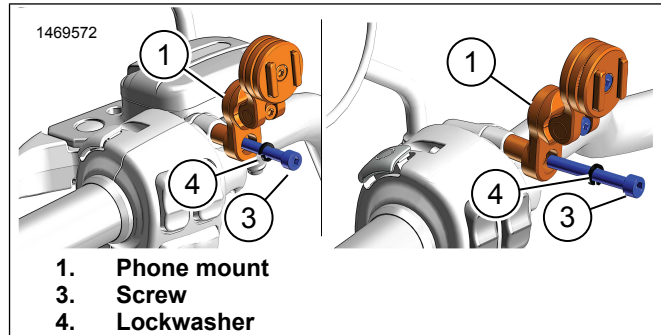

Figure 3. Phone Mount Install to Left Side Clutch/Mirror Mount
1. Prior to tightening phone mount bolt (3), adjust clocking to enable viewing without obstructing functions of the motorcycle.
2. **Touring, Trike, Softail, Dyna, Livewire Models:** Figure 3 Install screw (3) and lockwasher (4) to left side clutch mount. Tighten.
3. **Sportster XL, Street XG, Pan America, RH Models:** Figure 3 Install M6 screw (3) and lockwasher (4) to left side mirror mount. Tighten.